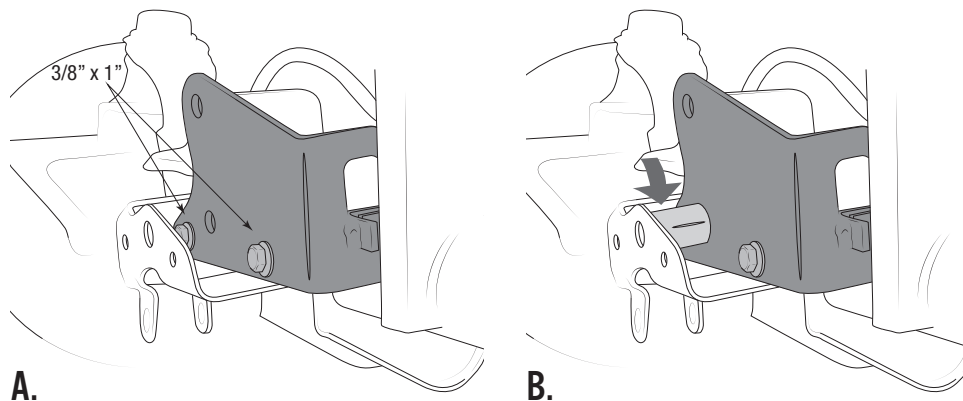

Figure 2
1. Place bracket with “half moon” cutouts inside the original front track bar bracket and over the axle tube (Fig. 2-A). Insert two of the supplied $3/8" \times 1.0"$ L bolts and washers through the small holes in the bracket and the corresponding holes in the stock bracket, then add nuts and hand tighten.
3. Insert the supplied spacer tube between stock track bar bracket and new bracket (Fig. 2-B), lining it up with the original track bar bolt hole. (This may require slight prying or tapping with a hammer.)